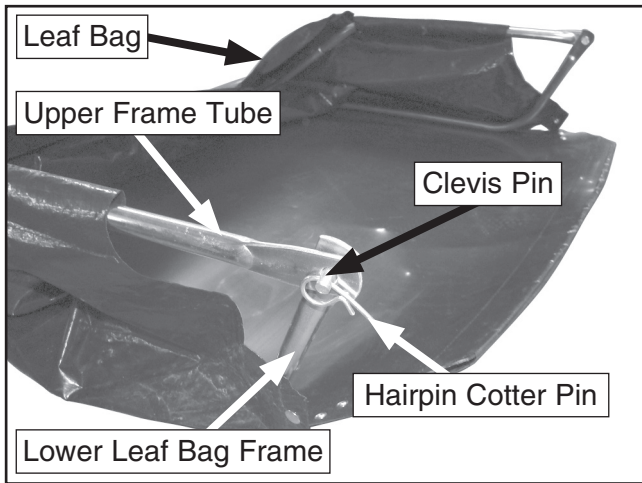

Figure 13. Upper and lower frame connection.
- Place the assembled lower leaf bag frame into the leaf bag and connect it to the upper frame tubes with the M10 x 15 clevis pins and two 3mm hairpin cotter pins, as shown in **Figure 13**. Repeat for both sides.